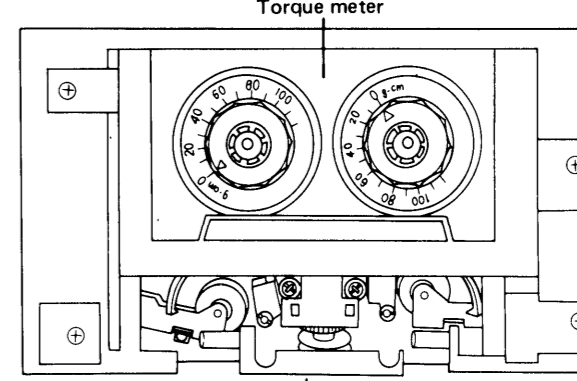

Fig. 4-6 Take-up torque adjustment
- Check that the take-up torque is within 35~55g-cm (Fig. 4-6).